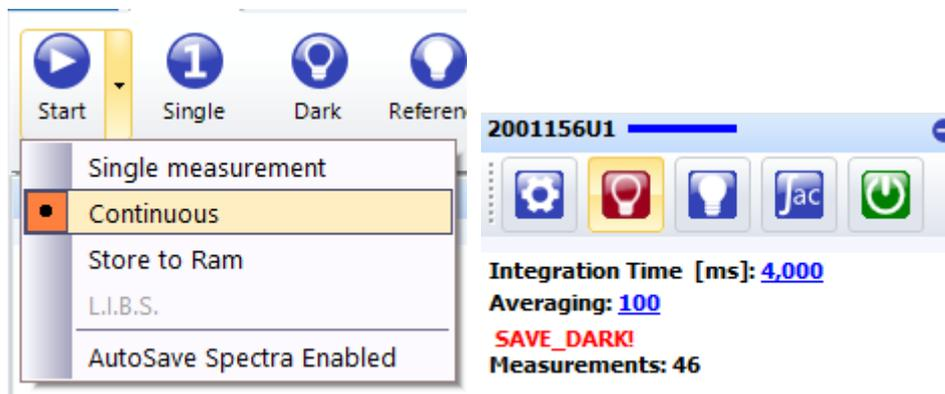

Figure 10: How to save a dark measurement.
- Click *Start* and *Continuous* (see Figure 10, left).
- Store the dark measurement by clicking on the empty lamp button (red lamp in Figure 10).